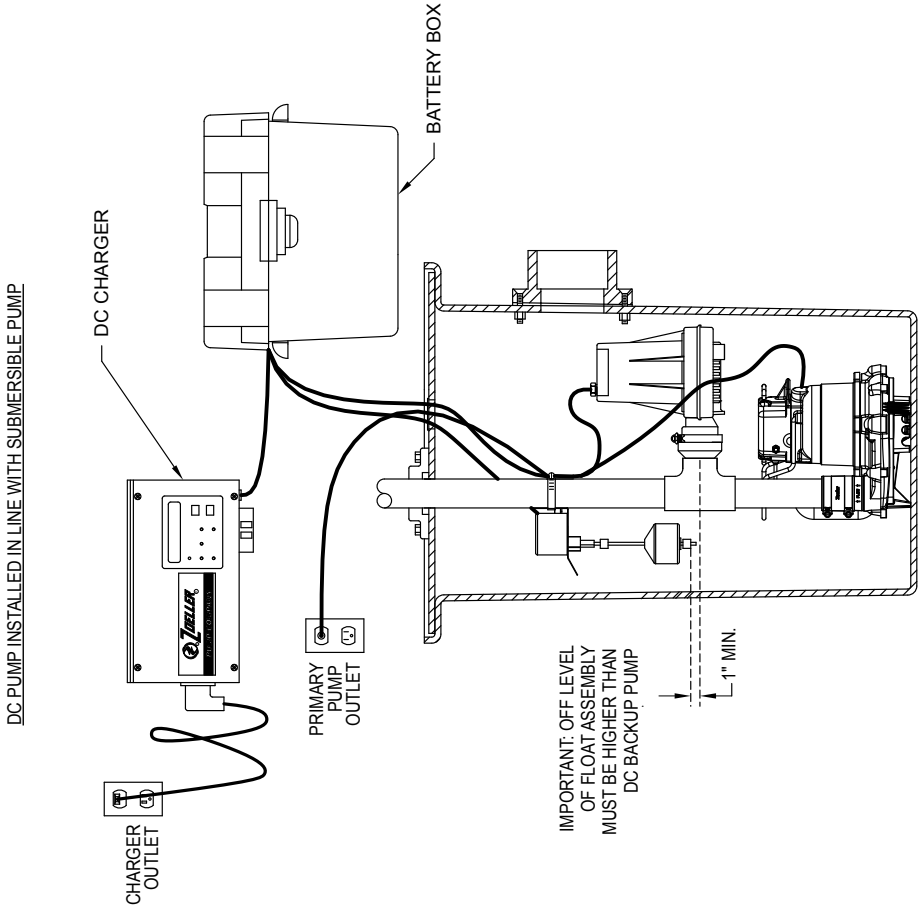
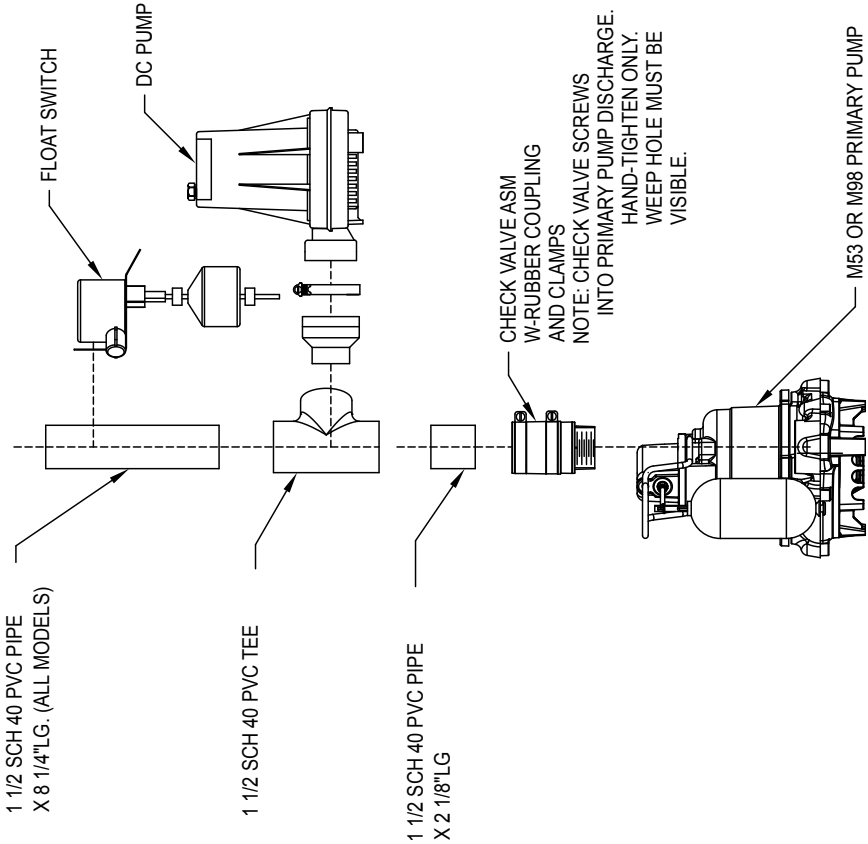

FIGURE 1
FIGURE 2
1. The preferred method of installation for backup pumps is shown in figure 1. The installation kit includes one check valve for installing with the backup pump discharging into the primary pump outlet pipe. An additional check valve is incorporated in the discharge of the backup pump.
3. Make certain the float switch clamp is tight on the pipe to avoid slippage. Ensure that the "off" level of the float is 1" min. above the discharge tee of the DC backup pump (see figure 1). Position pumps in the sump and move float up and down, making sure of free movement without interference from any obstructions inside the sump or lid. Very shallow sumps may require some adjustment to avoid overfilling or backing up of water into the sump inlet. The float switch can be moved on the discharge pipe or the rubber stops can be adjusted as necessary. Cut extra float rod length below lower float stop to prevent debris from interfering with float operation (see figure 2).